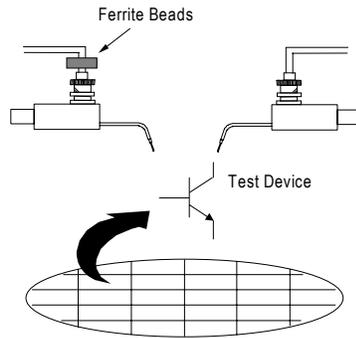

Fig. 29 Example of Ferrite
- For bipolar transistors, add resistive ferrite beads (9170-0029) as close as possible to the base or emitter, as shown in Fig. 29.